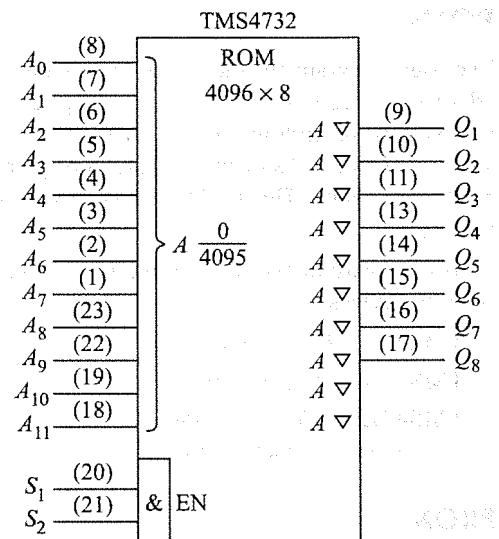

Fig. 13.17
In the case of a ROM, you must supply the manufacturer with the exact memory contents to be stored in the ROM. The Texas Instruments TMS4732 is a ROM having 4096 eight-bit words (a  $4096 \times 8$  ROM). The logic diagram is given in Fig. 13.17. The 8-bit word length makes this NMOS (*n*-channel MOS) chip ideal for microprocessor applications. Texas Instruments will store user-specified data during manufacturing. The user must supply data storage requirements in accordance with detailed instructions given on the TMS4732 data sheet.
The logic diagram for the Texas Instruments TMS4732, a  $4096 \times 8$  ROM, is given in Fig. 13.17. Twelve address bits are required,  $A_0, A_1, \dots, A_{11}$  ( $2^{12} + 4096$ ). There are two chip-enable inputs,  $S_1$  and  $S_2$ . Both  $S_1$  and  $S_2$  must be high in order to enable the chip. Each of the eight data output lines is a three-state line (the small  $\nabla$  symbol). As mentioned previously, this chip is ideal for microprocessor applications because of the 8-bit word length. This ROM is mask-programmable, and data must be specified for the manufacturer before purchase.
13. What is the meaning of the small triangle on each output line of the TMS4732 in Fig. 13.17?